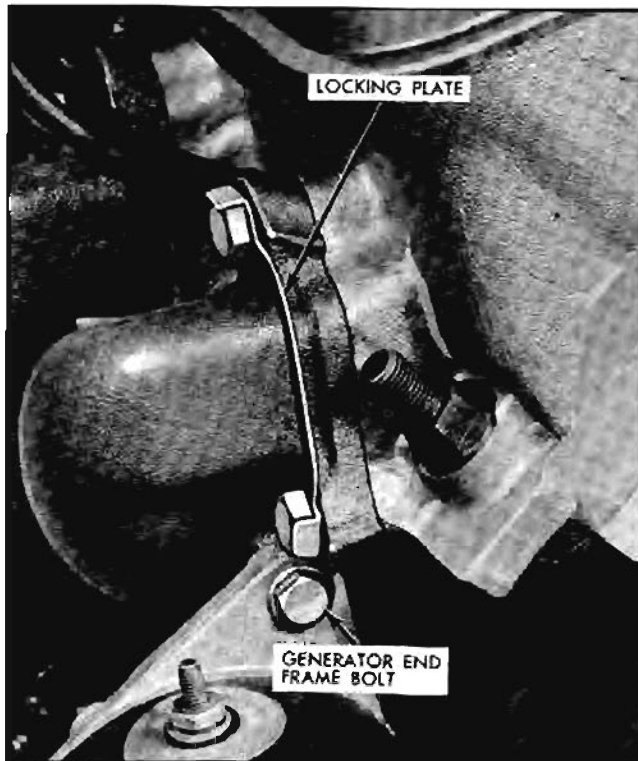

Fig. 6-76 Manifold Locking Plate
2. Place exhaust manifold in place against cylinder head and install bolts and locking plates as shown in Fig. 6-76.